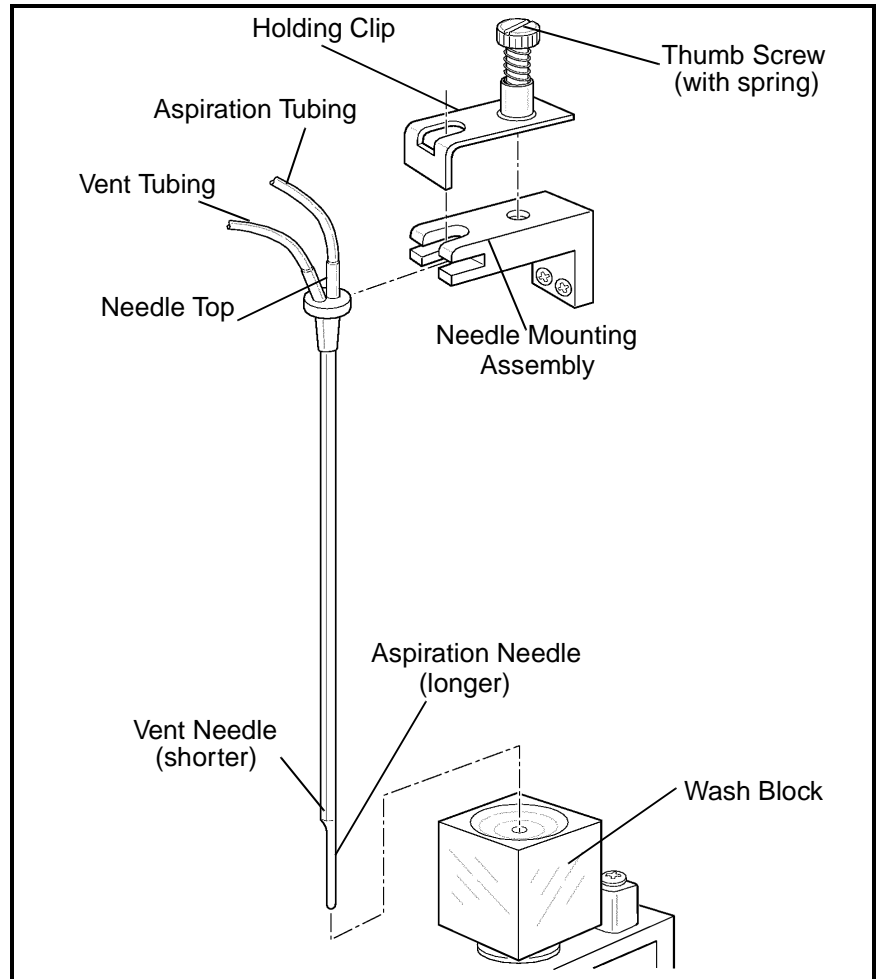

Figure 9.12: Closed Sample Needle
3. Locate the Aspiration Tubing and Vent Tubing attached to the top of the Closed Sample Aspiration Needle. (Refer to Figure 9.12.)